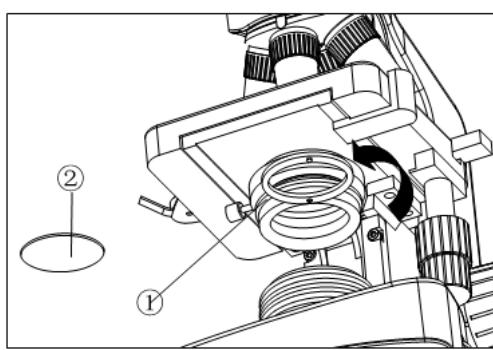

Fig.7
#### 2.2.4 Installing the colour filters (Fig.7)
1. Turn the condenser bracket① out at the direction of arrow in Fig.7